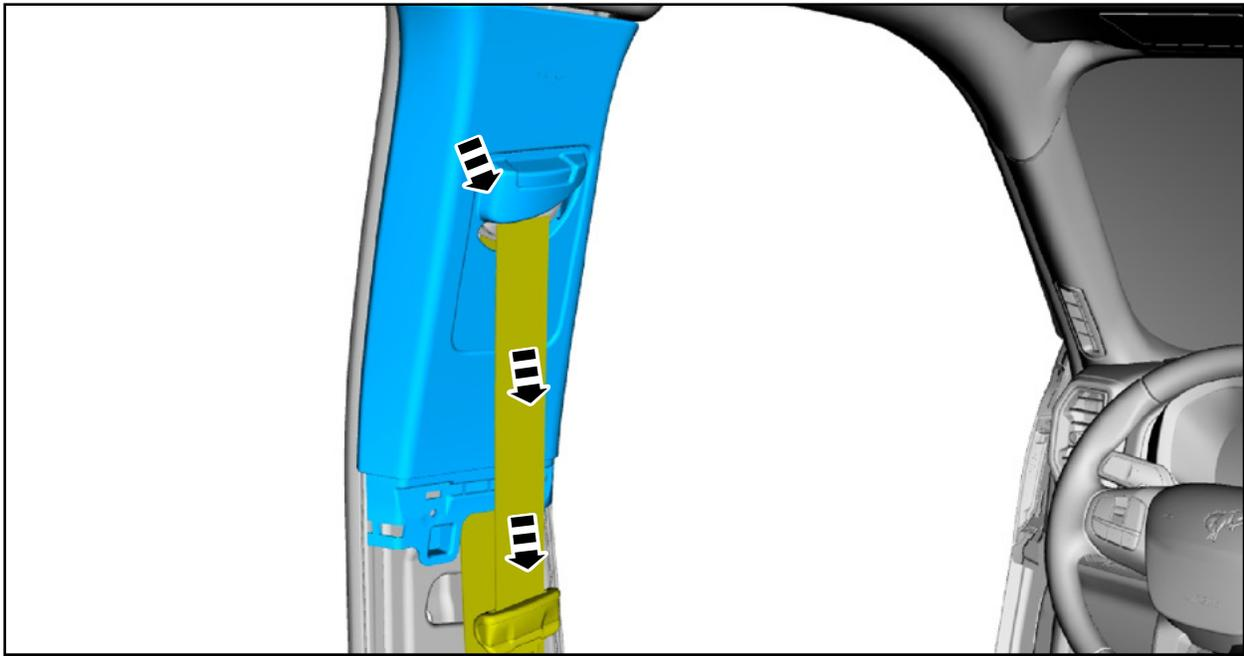

FIGURE 8
8. Position the upper B-pillar down the seatbelt and out of the way. See Figure 8.